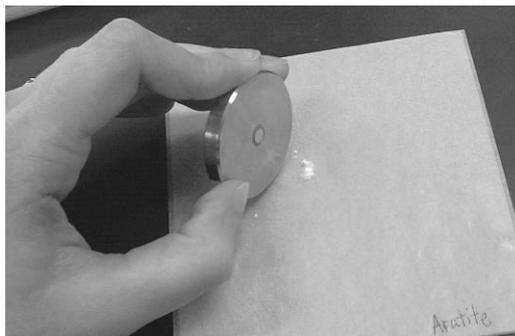

Figure 18: Dislodging sample from the crystal's surface.
- 7.e. Remove the crystal, and tap its base gently on the wax paper to dislodge the powder sample, shown below in Figure 18.